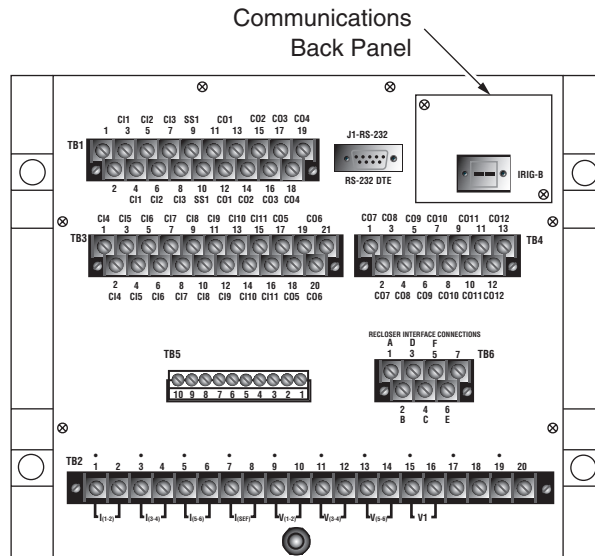

Figure 4. Form 6 control back plate.
Note: Various wire connections will keep the front panel attached to the control module. This will allow the display panel to be placed next to the control module while work on internal circuit boards takes place (Figure 4).
3. Carefully pull power supply and RIF board mounting plate outward (Figure 4). Disconnect wire assembly from the display assembly.